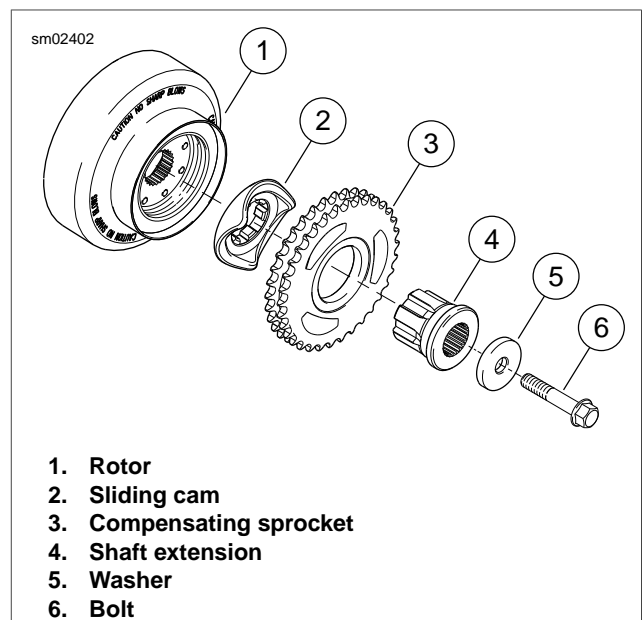

Figure 6-10. Compensating Sprocket
1. See Figure 6-10. Apply a thin layer of primary chaincase oil, to the inner diameter of the compensating sprocket
- (3). and the splines of shaft extension (4). Assemble shaft extension, compensating sprocket and sliding cam (2). Place primary chain over compensating sprocket assembly.